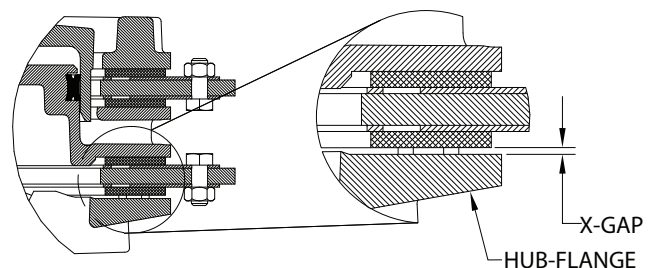

Figure 7 : "X" Gap Location
- 3.3.2 Refer to **Figure 7**. Exhaust all air pressure and measure the "X" dimension between the clutch disc and the flange on the hub. Refer to Table 5 for wear gap limits. If the maximum gap is achieved, refer to the maintenance section for repair instructions.